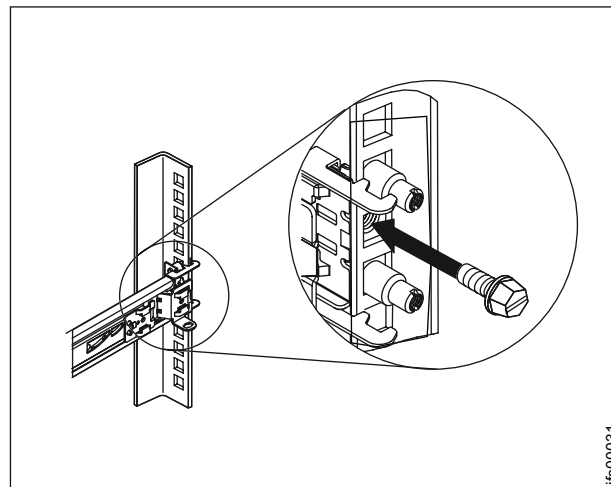

Figure 41. Securing the cable management arm and the file module in the rack for shipping if needed.
11. Insert the M6 screws to the rear of the slides, as shown in Figure 41. Use a cable tie to secure the free end of the cable management arm to the rack, if needed. See Figure 41.